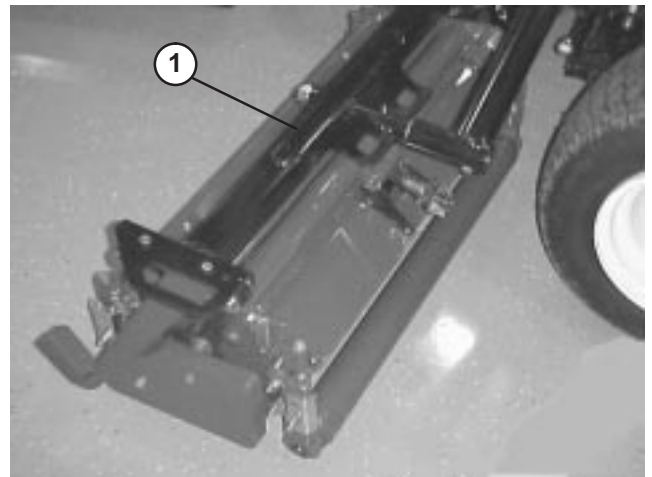
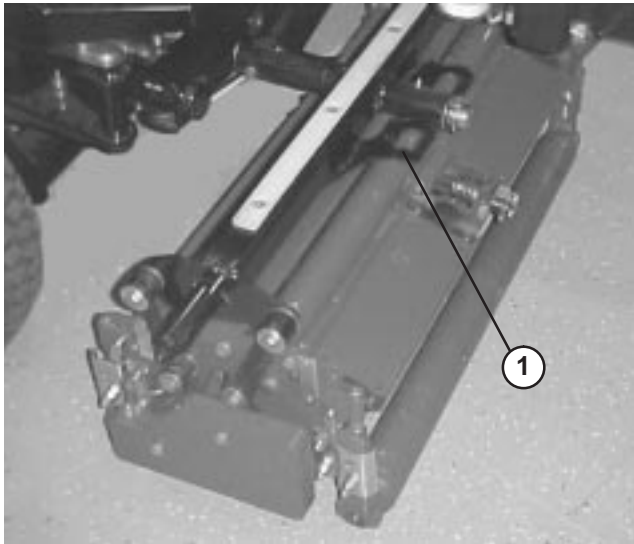
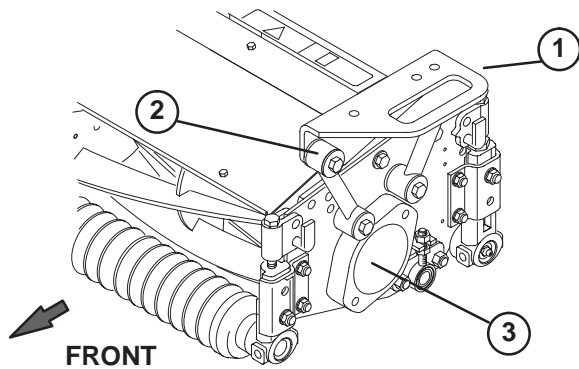

Figure 16
Figure 17
Figure 18
Note: With lift arms fully raised, hoses should be routed as shown in figure 18 and clear lift arm by .04-.12".
2. Position a front carrier frame (Fig. 16) onto each front cutting unit. Align mounting holes with mounting links as shown in figure 18.
3. Position rear carrier frame (Fig. 17) onto rear cutting unit, aligning mounting holes with mounting links as shown in figure 18.
4. Secure each mounting link to carrier frame with a 3/8–16 x 2–1/4” lg capscrew, (2) flatwashers and a locknut, as shown in figure 18. Position a washer on each side of link when mounting. Torque to 31 ft–lb.
3. Remove shipping plug from bearing housings on remaining cutting units (Fig. 18).